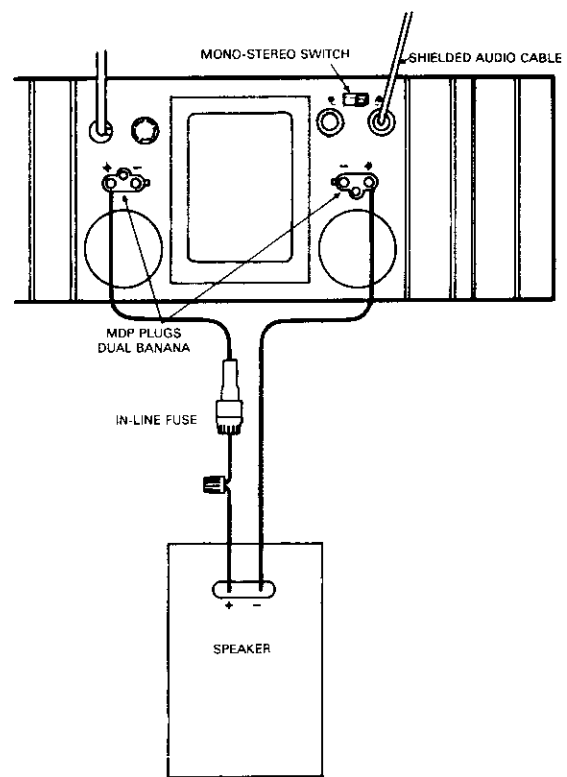

FIG. 2-7
2. Connect output lines as per the following drawing, Figure 2-7. The output from the DC-300A in Mono is **BALANCED** and is isolated from the chassis, and from the input grounds to the DC-300A.